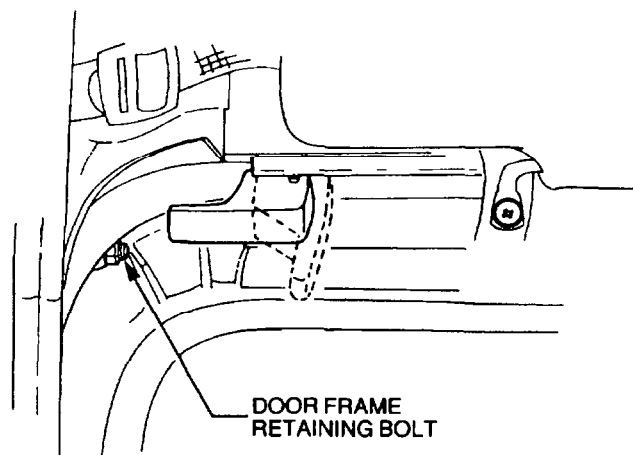

Figure 178 Canopy Removal
- Release the four latches and remove the canopy leading edge from between the windscreen and the clamping frame (Figure 178).